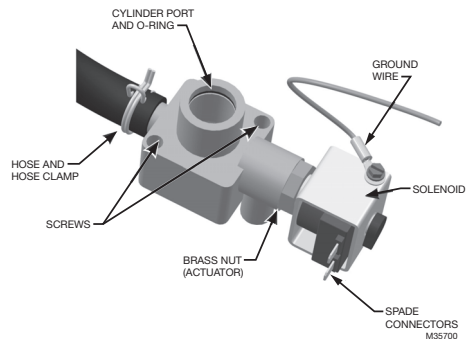

Fig. 4. Drain Valve
7. Reassemble actuator making sure tapered end of spring is oriented as shown in Fig. 4. Tighten brass nut 1/4 turn past hand tight.